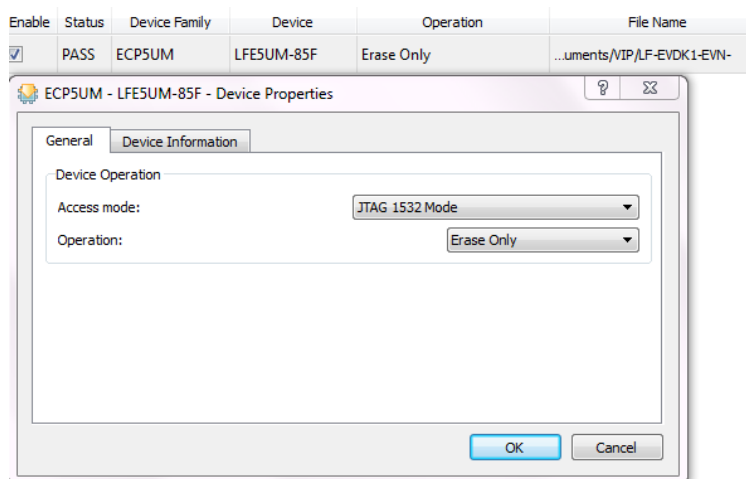

Figure 4.2. Device Operation
5. In the **Device Properties** dialog box, select **JTAG 1532 Mode** in **Access mode** and **Erase Only** in **Operation** (shown in Figure 4.2).